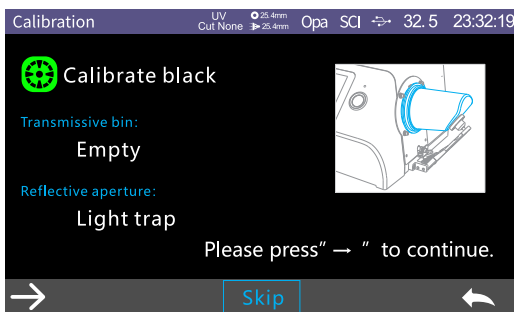

Figure 9
- 3、 After finishing 100% calibration, enter figure 9 interface , place the black cavity according to prompt, and press test key to start calibration.as shown in Figure 9.